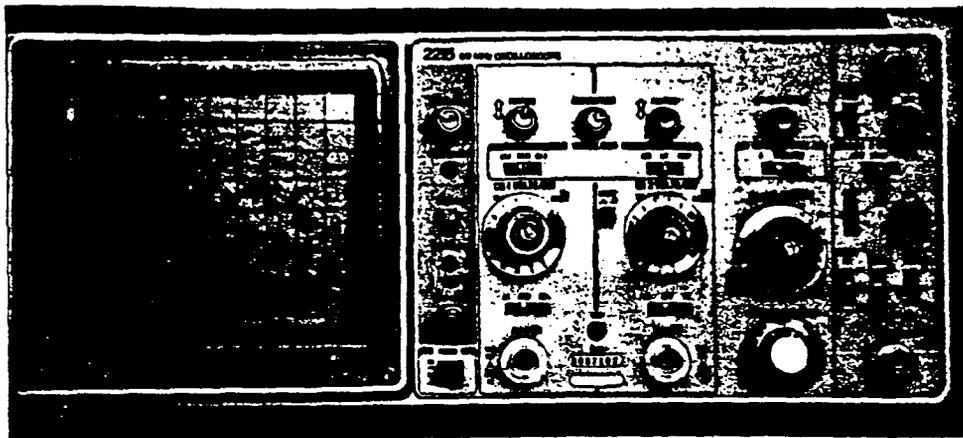
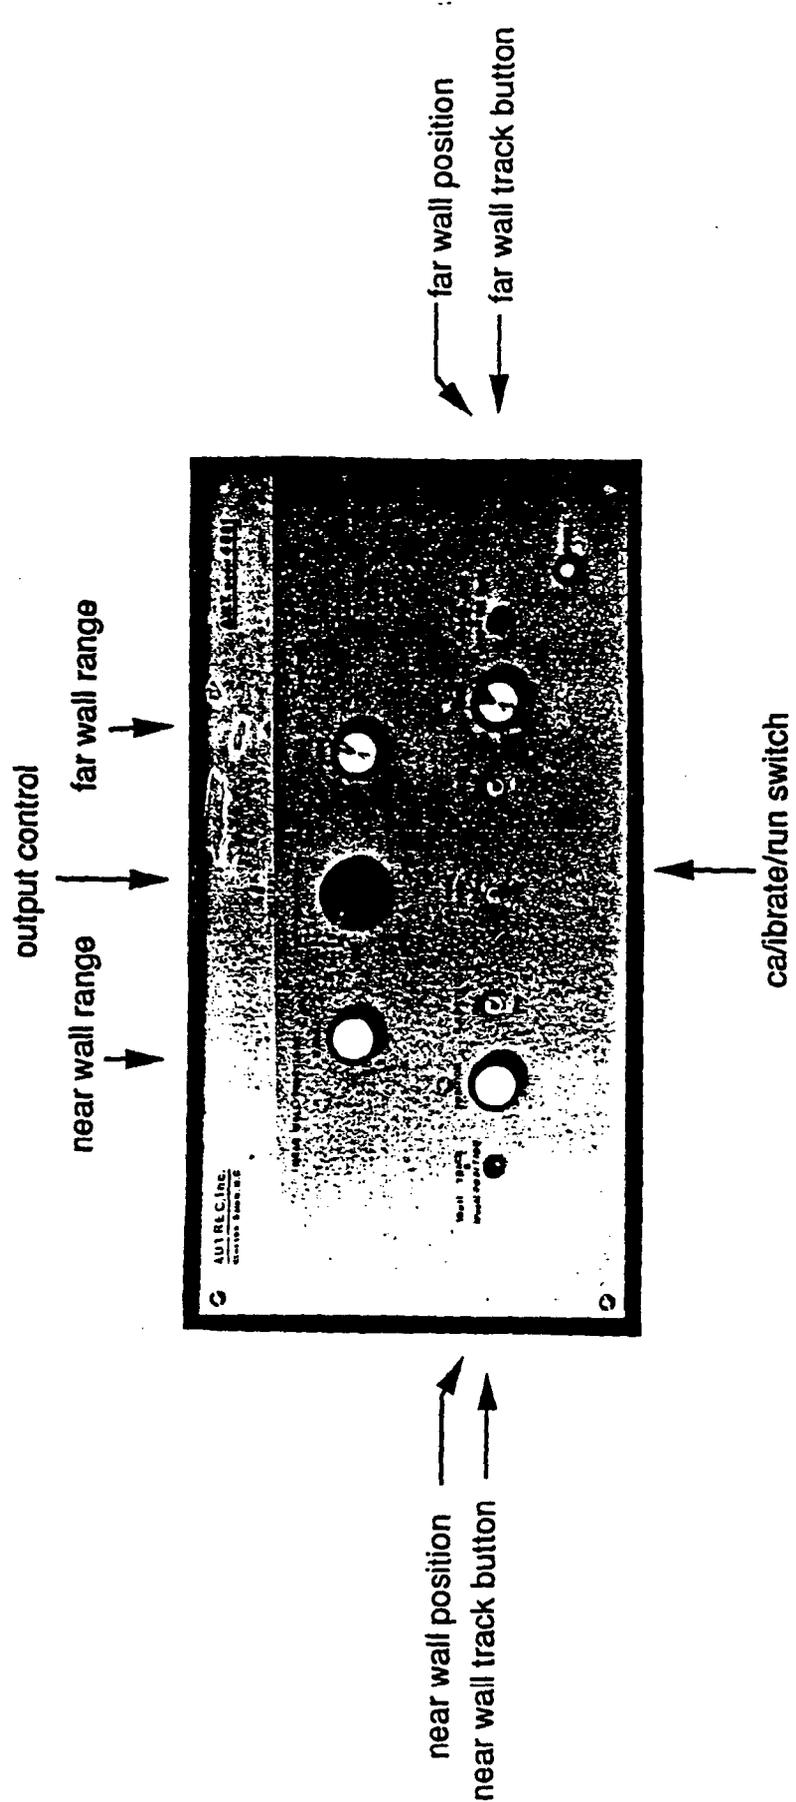
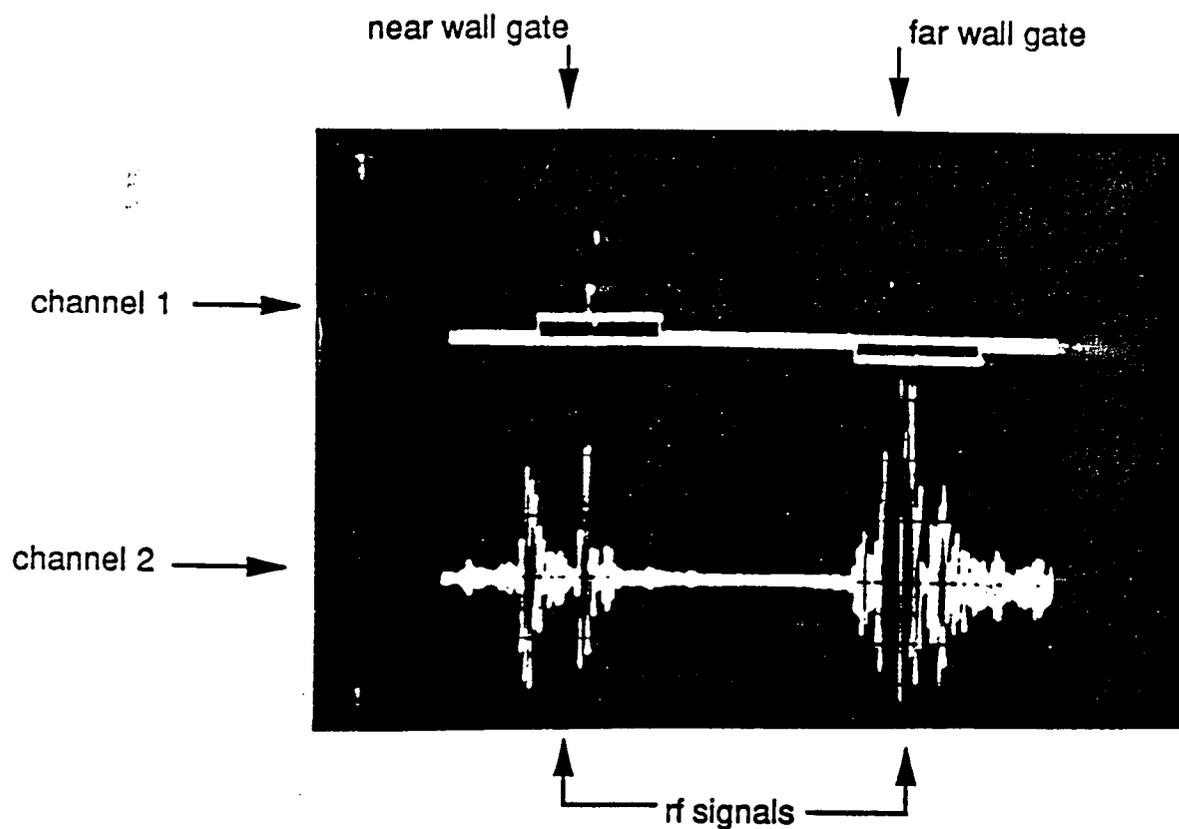

Figure 7. Tektronix Oscilloscope
Figure 8. Arterial Wall Tracker
Figure 12. Oscilloscope Screen
After obtaining the image of the left common carotid (optimal angle) on the Biosound, attention is turned to the oscilloscope (see Figure 7) and the arterial wall tracker (see Figure 8). In the tracking process, the oscilloscope displays the electronic "rf" (radio frequency) signals which are output from the Biosound. The sonographer uses this display to identify the arterial wall echoes on the oscilloscope monitor. The arterial wall tracker captures and follows (tracks) the motion of the artery walls.
The sonographer turns attention to the oscilloscope and verifies that channel 1 and channel 2 appear as two bright horizontal lines on the monitor (see Figure 12). If either of these channels does not appear, Section 2.4-Oscilloscope Adjustments is consulted to verify that the oscilloscope controls are properly set.
Once ascertaining that the two gates appear on channel 1 (see Figure 12), the gate appearing above the line is used to track the near arterial wall. The gate appearing below the line is used to track the far arterial wall. If the two gates do not appear on the screen, the RANGE controls (see Figure 8) are adjusted on the arterial wall tracker.
1. Flip the CALIBRATE/RUN switch on the arterial wall tracker (see Figure 8) to the RUN position.
2. Turn the OUTPUT control on the arterial wall tracker (see Figure 8) to the RUN position.